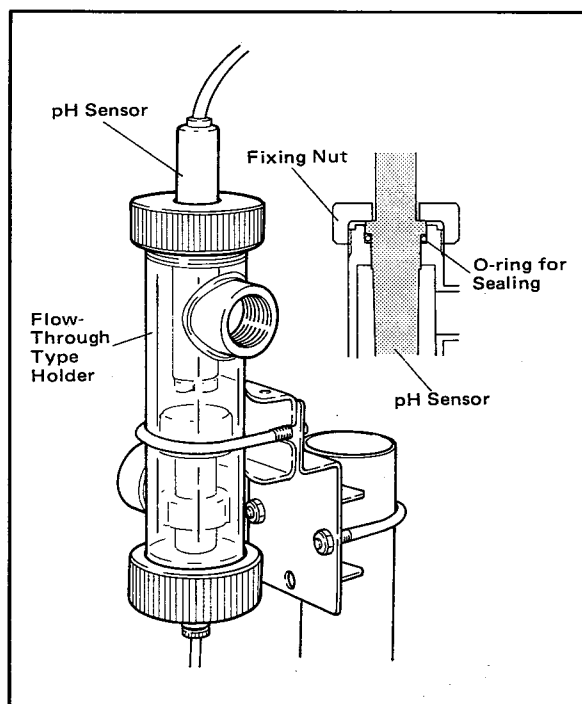

Figure 2-9. Sensor Installation (Flow-Through Type Holder).
- (2) Fix the pH sensor in the holder. Remove the protective cap from the sensor and remove the sponge (part for shipment, this is not necessary after the sensor is installed in the holder) from the holder. Confirm that the "liquid junction" and the "glass electrode" are firmly screwed into the sensor body. Insert the sensor tip in the holder and firmly tighten the sensor fixing nut on the holder (see Figure 2-9).